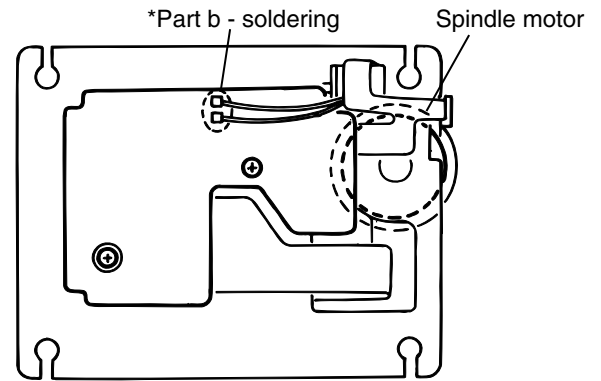

Fig.4
■ Removing the Spindle Motor Assembly (See Fig.4 to 8)